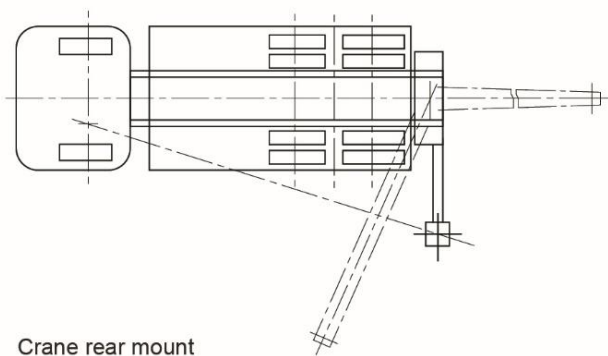

Figure 11: VMLS at rear — positions where stability is to be considered
- If positioning the VMLS at the rear of the vehicle, consider these two tipping positions (see Figure 11):